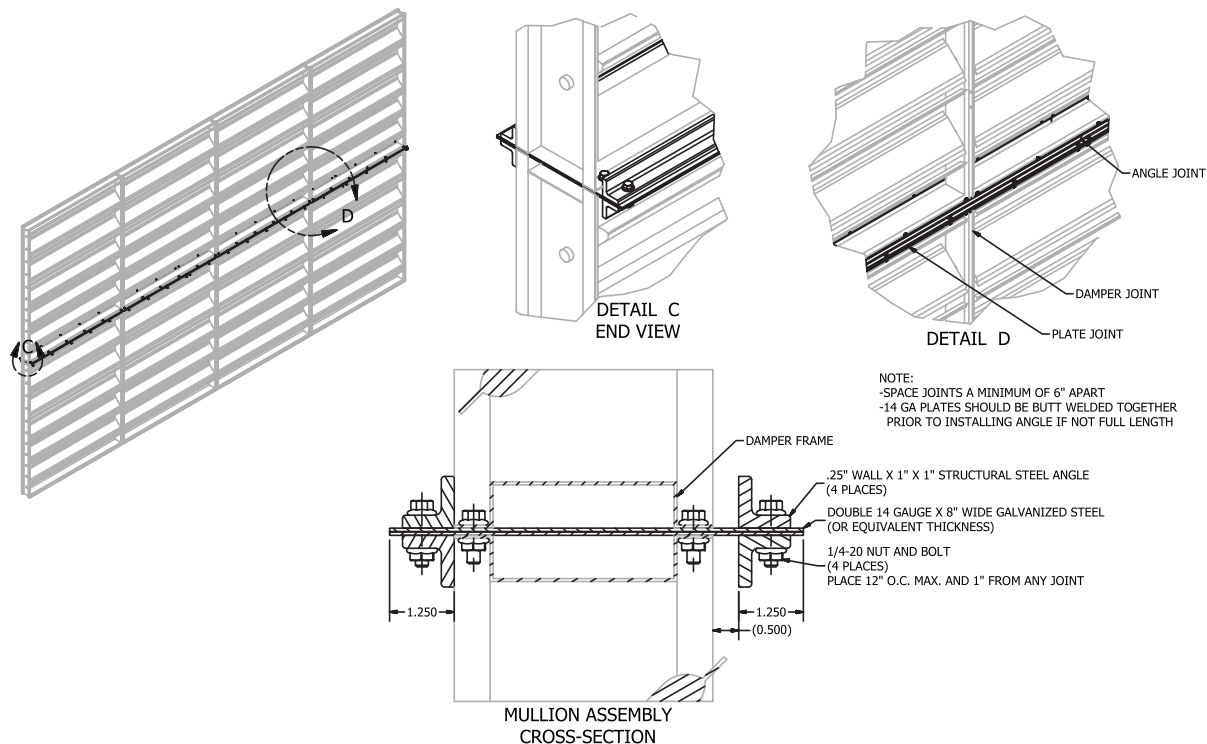

Figure 3: Mullion assembly for damper units 3 or 4 sections wide x 2 section high and pressures 6 in. wg or less
- Pressures up to and including 6 in. wg (1.5 kPa)- Full length 8 in. wide mullion assembly. **Figure 3.**